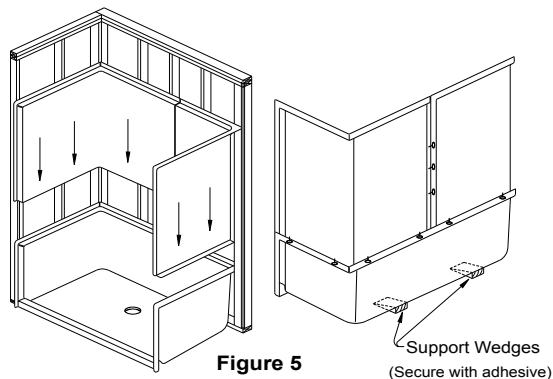

Figure 5
1. Install drain and/or overflow assembly on unit following drain manufacturers instructions. Place support wedges under the back edge and secure. Place the base unit in the install location. Level the unit. A minimum of two shims should be used for proper support. (See *Figure 5*). Re-check level and attach base to framing studs with 6D galvanized screws.
3. Place the walls on the top of the base aligning the holes with the pins. For three and four piece units, install the left wall first. Repeating the same for the right wall. Press all seams together to assure a tight fit. Wipe away any excess caulking. See *Figure 5*